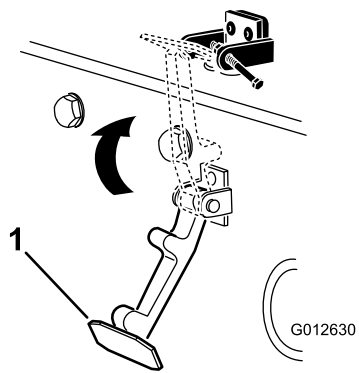

Figure 17
6. Hook the latch onto the hood-latch bracket (Figure 17).